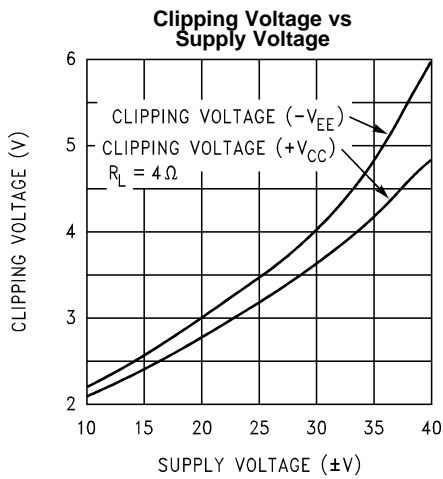

Figure 14.
- (1) All voltages are measured with respect to the GND pin (pin 7), unless otherwise specified.
- (2) Absolute Maximum Ratings indicate limits beyond which damage to the device may occur. Operating Ratings indicate conditions for which the device is functional. Electrical Characteristics state DC and AC electrical specifications under particular test conditions and specific performance limits. This assumes that the device is within the Operating Ratings. The typical value is a good indication of device performance.
- (3) Typicals are measured at 25°C and represent the parametric norm.
- (4) Limits are specified to AOQL (Average Outgoing Quality Level).
- (5) V^- must have at least $-9V$ at its pin with reference to ground in order for the under-voltage protection circuitry to be disabled.
- (6) AC Electrical Test; refer to Test Circuit #2 - AC Electrical Test Circuit.
- (7) The feedback compensation network limits the bandwidth of the closed-loop response and so the slew rate will be reduced due to the high frequency roll-off. Without feedback compensation, the slew rate is typically larger.
- (8) DC Electrical Test; refer to Test Circuit #1- DC Electrical Test Circuit.
- (9) The output dropout voltage is the supply voltage minus the clipping voltage. Refer to Figure 14 in Typical Performance Characteristics.